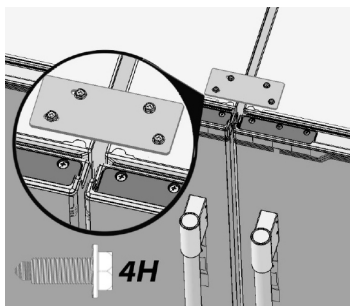

Fig. 16
17. Attach the 1H top tie bar (Fig. 16), keeping the 2 left 4H bolts loose.